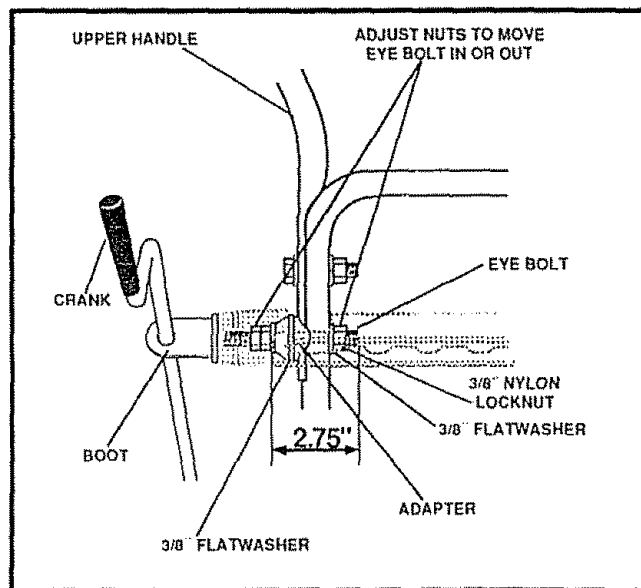

FIG. 4B
- Remove the 3/8" nylon locknut and flatwasher from the eye bolt assembly (on the chute crank assembly earlier). Check to make sure the two 3/8" jam nuts are tight. The jam nuts should be 2.75 inches from the end of the eye bolt (See Fig 4B)
- Install eye bolt through lower hole in the left hand side of the handle and shifter plate (See Fig 4B)
- Install the 3/8" flatwasher and the 3/8" nylon locknut loosely on the eye bolt as shown in Fig 4B